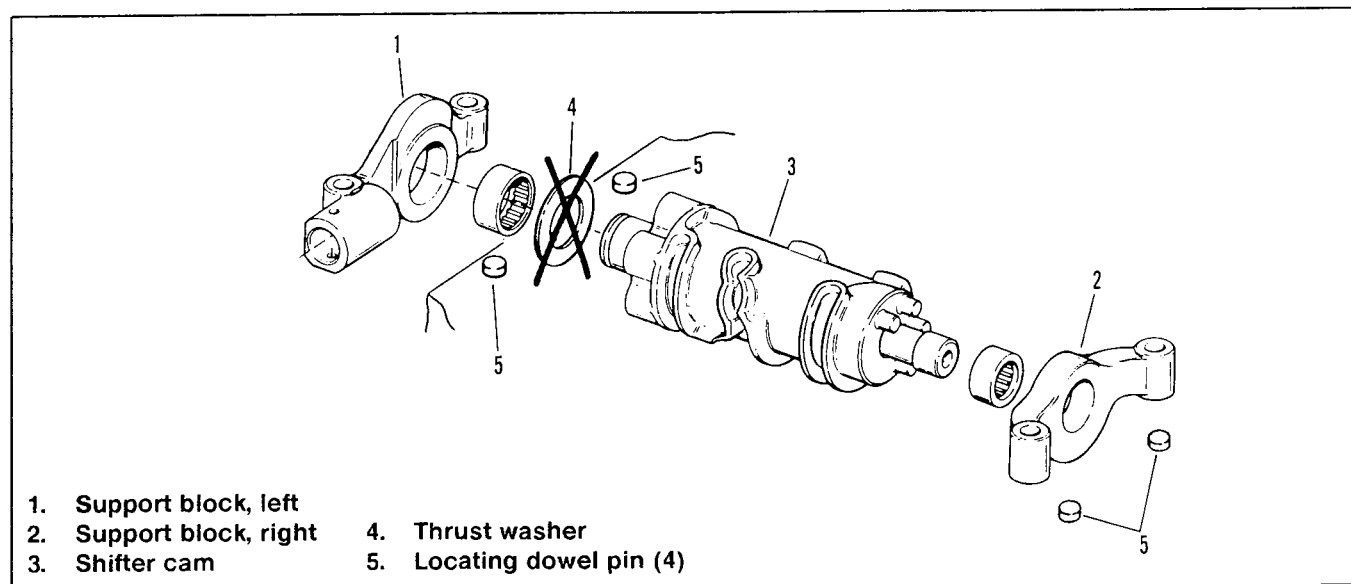

Figure 5. Transmission Support Block Dowel Pins
See Figure 5. As of early May (transmission No 91122004), both transmission support blocks (1 and 2) are equipped with locating dowel pins (5). With the pins at both support blocks, the distance between the support blocks can be more accurately maintained. The shifter cam (3) is now machined to allow for proper alignment with the shift forks, without the use of the thrust washer (4).